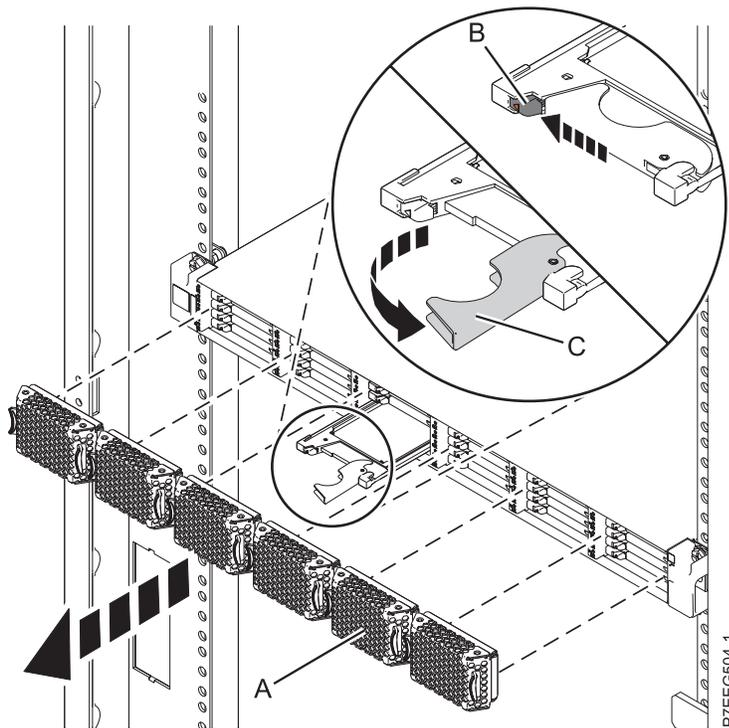

Figure 22. Removing the solid-state drive from the 58/88 PCIe storage enclosure
1. Pull off the bezel (A) that covers the slot containing the solid-state drive.
2. Slide the release latch (B) over gently to unlock the drive handle, see Figure 22.